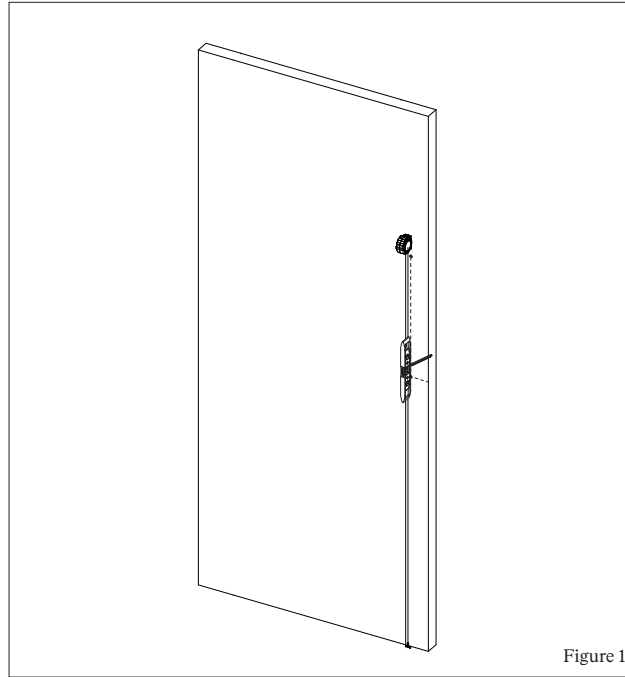

Figure 1
- 1.1 Mark the top fixing point on the face of your door at the desired height and horizontal distance from door edge. (Figure 1)
- 1.2 In most instances, the vertical position should align with the centre of the door stile on a panel door or with any lock, turn or escutcheon fitted to the door. (Figure 1)